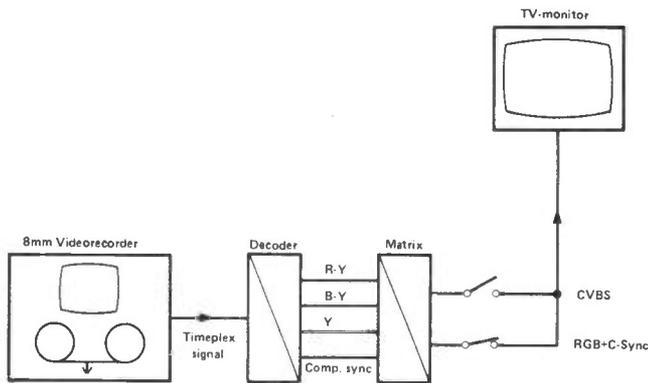
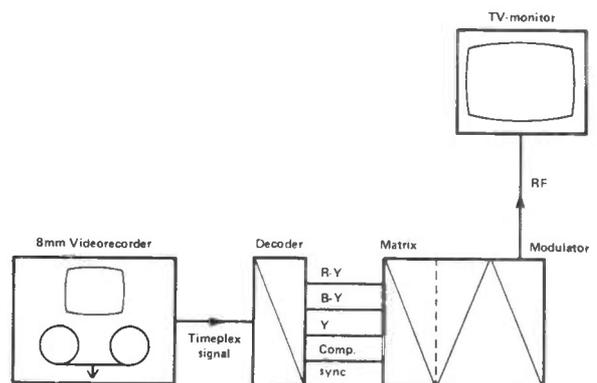
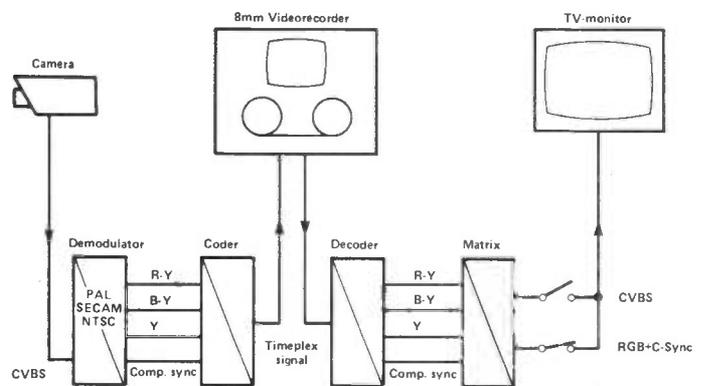

Figure 5: Line picture playback.
Figure 6: Line picture playback with RF-modulator.
Figure 7: Picture quality of Timeplex in combination with 8mm video recorder.
*Figures 5 and 6* shown in diagrammatic form the process of live picture playback, while *Figures 7 and 8* illustrate the overall route taken between camera and display. In all cases the output from the 8mm video recorder passes straight to the decoder. Of particular note here are the cases illustrated in *Figures 6 and 8* which refer to the use of a normal domestic TV as the display medium, rather than any TV monitor that can accept either CVBS or RGB signals direct. The RF modulator incorporated in these arrangements modifies the CVBS signal output from the decoder matrix.